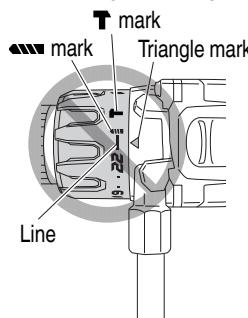

Fig. 19
- Do not use with the clutch dial number at "22" and the line at the middle of the drill mark. Doing so may cause damage. (See Fig. 19)